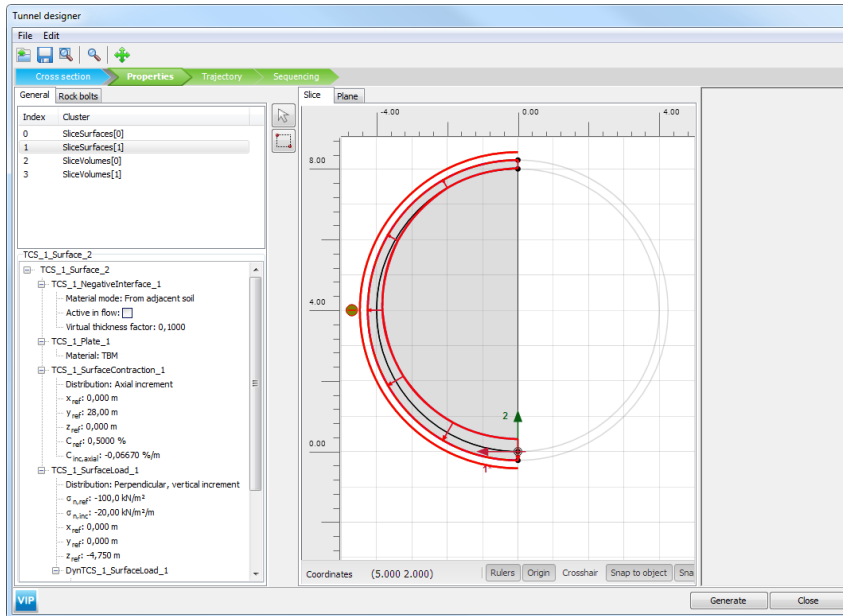

Figure 6.7 Slice tabsheet in the Tunnel designer
- Set the $\sigma_{n,ref}$ to -100 and $\sigma_{n,inc}$ to -20 and define (0 0 -4.75) as the reference point for the load by assigning the values to x_{ref} , y_{ref} and z_{ref} (Figure 6.7).